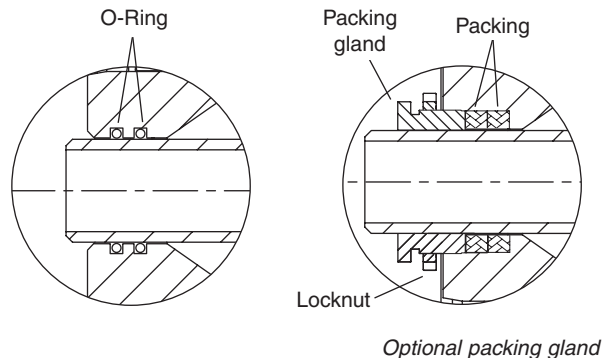

Figure 2
Remove the head (2) by removing the hex nuts (2A). Remove and discard gasket (8A). If optional packing gland is used, loosen the locknut and remove the packing gland. See Figure 2.
Position the joint with quick release flange/nipple assembly (4, 5, and 55) pointed towards the journal flange or roll end. Slide the joint over the horizontal pipe until the pipe passes through the o-rings or packing (4A). Insert the nipple into the journal flange counterbore. Slide the quick release nipple flange (5) over the journal flange studs and secure flange with hex nuts. Tighten hex nuts evenly. The end of the horizontal pipe should extend 3/8" (10 mm) past the end of the nipple or packing gland if used. See Figure 2.
If packing gland is used, insert new packing rings into the nipple and around the horizontal pipe. Lubrication is not necessary with packing or packing gland. Tighten packing gland to 30 ft-lbs (41 Nm). Tighten locknut. The horizontal pipe should extend 3/8" (10 mm) beyond the packing gland or the end of the nipple. See Figure 2.